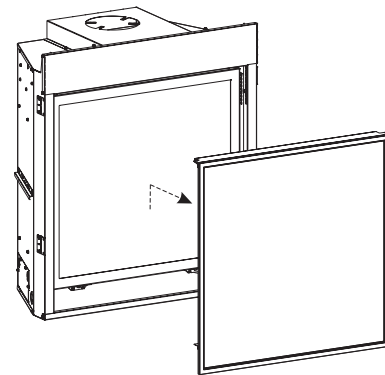

Figure 4
1. Make sure power is turned off prior to any removal. Lift screen and pull away from the unit. **See Figure 4.**
16. Replace barrier screen removed in step 1. **See Figure 4.**